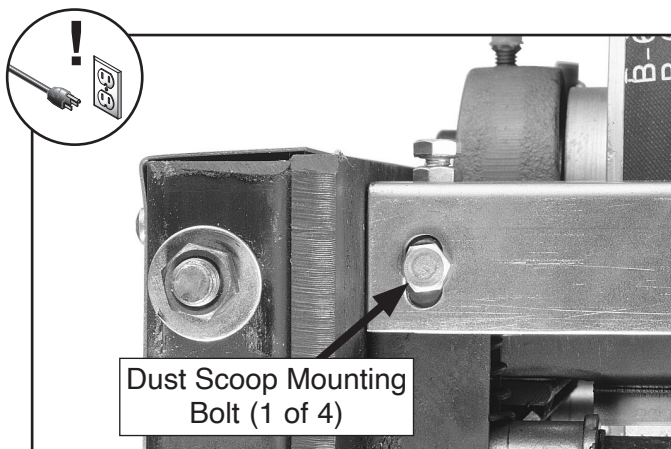

Figure 50. Location of dust scoop mounting bolts.
4. Loosen dust scoop mounting bolts located at each end of scoop (see **Figure 50**).